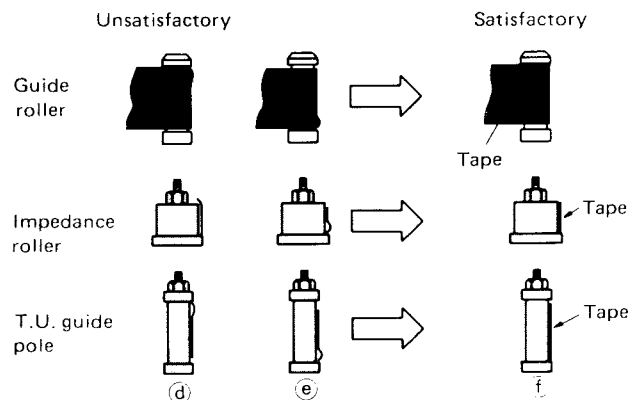

Fig. 4-13
- 2) Rotate the audio/control head inclination adjusting screw (c) and adjust so that the tape will run smoothly at the take up guide pole as illustrated in Fig. 4-13 (f).